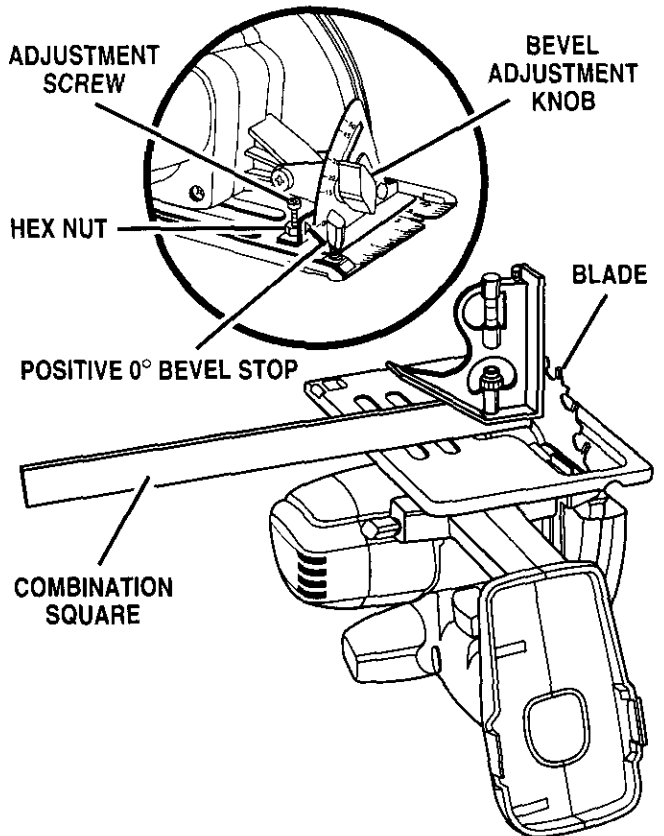

Fig. 20
See Figure 20.
- Place your saw in an upside down position on workbench. See Figure 20.